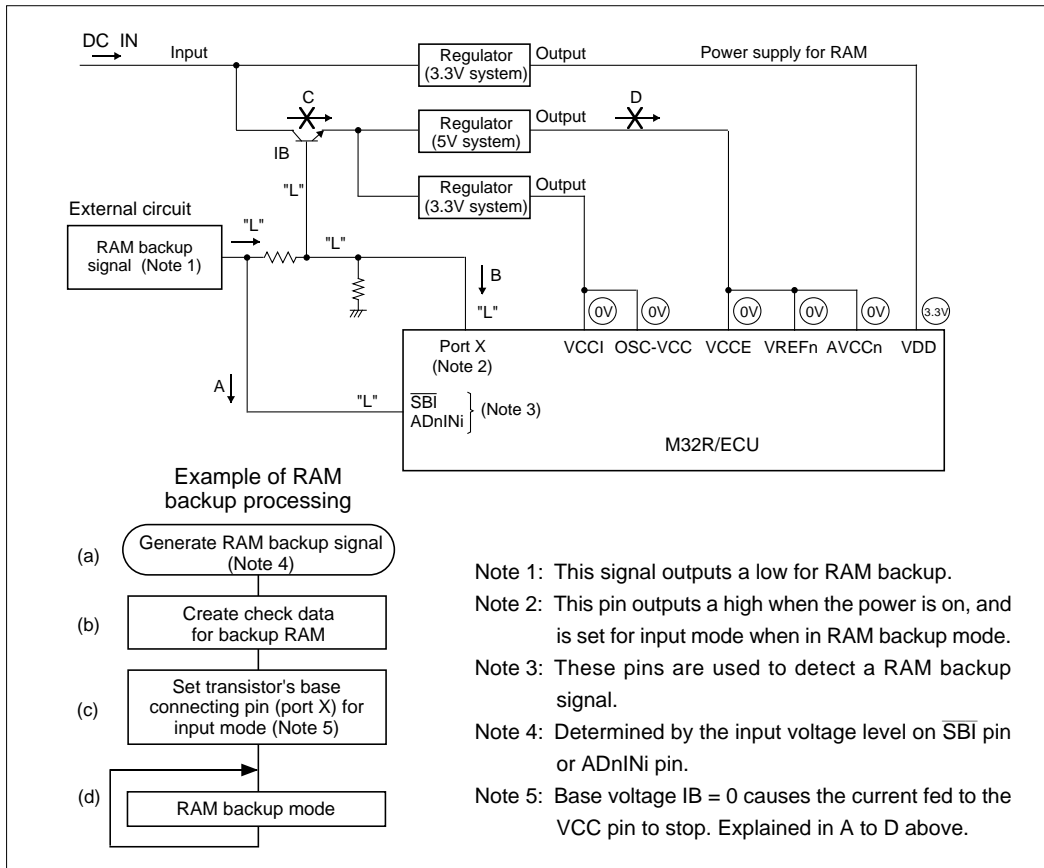
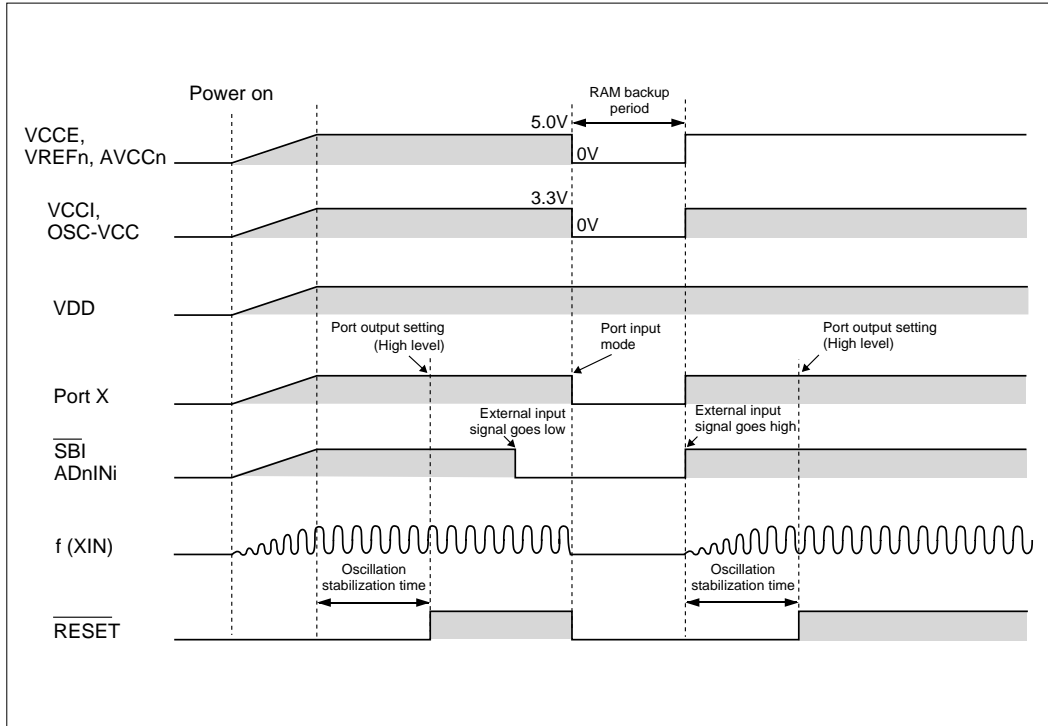

Figure 17.3.3 RAM Backup State for Low-Power Operation
Figure 17.3.4 Example of RAM Backup Sequence for Low-Power Operation
Figure 17.3.3 shows the RAM backup state of the M32R/ECU. Figure 17.3.4 shows a RAM backup sequence. When the external circuit outputs a low, input on the  $\overline{\text{SBI}}$  pin or  $\overline{\text{ADnINi}}$  pin goes low. A low on these input pins generates a RAM backup signal (A and (a) in Figure 17.3.3). To enable RAM backup mode, make the following settings.
- (1) Create check data to verify after returning from RAM backup to normal mode whether the RAM data has been retained normally ((b) in Figure 17.3.3).
- (2) To materialize low-power operation, set all programmable input/output pins except port X for input mode (or for output mode, with pins outputting a low) ((c) in Figure 17.3.3).
- (3) Set port X for input mode (B and (d) in Figure 17.3.3). This causes the transistor's base voltage,  $I_B$ , to go low, so that no current flows from the power supply to the VCC pin via the transistor (C in Figure 17.3.3). Consequently, the power to the VCC pin is shut off (D in Figure 17.3.3).
Due to settings in (1) to (3), the voltage applied to the VDD pin becomes  $3.3\text{ V} \pm 10\%$  and voltages applied to all other pins drop to  $0\text{ V}$ , thus placing the M32R/ECU in RAM backup mode ((d) in Figure 17.3.3).